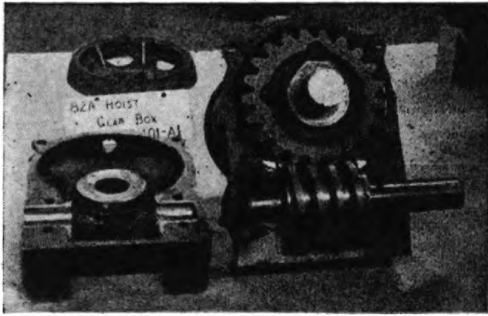

Figure 121. Interior of power boom hoist. Boom is raised and lowered by power, with minor adjustments made by hand wheel.
- (b) The hoist housing is bolted together in two halves and may be taken apart as shown, Figure 121.